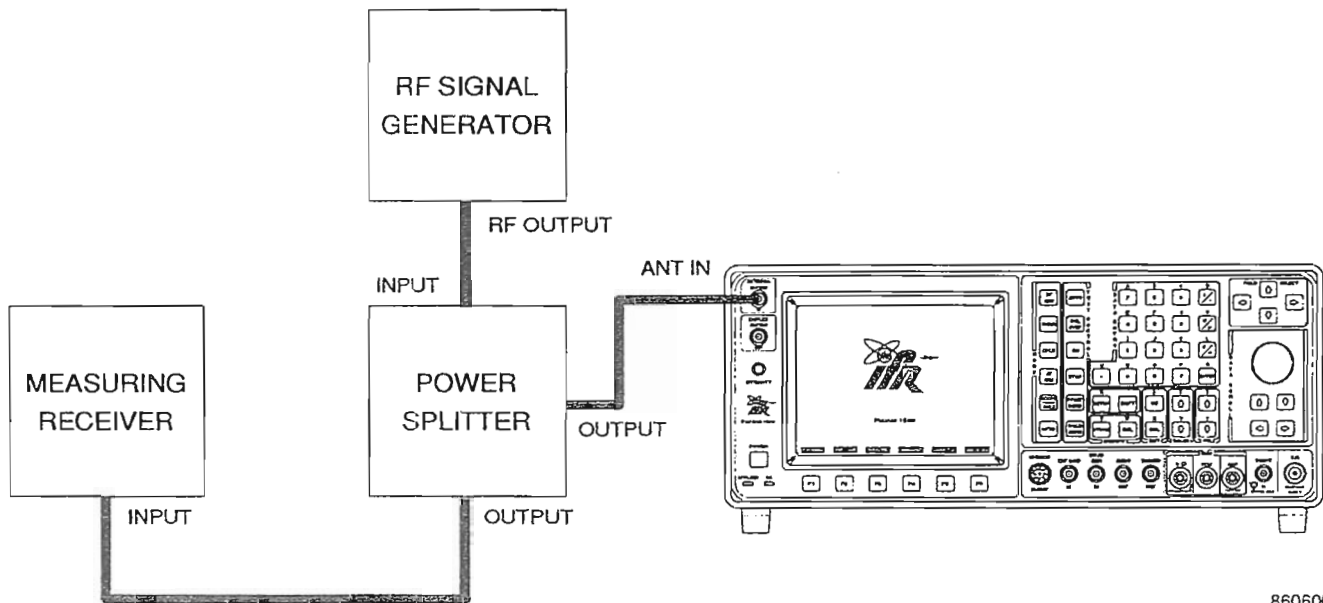

Figure 3-15 Modulation Meter Calibration Test Setup
FIGURE REFERENCES: Figure 3-15
| 2.   | Connect Power Splitter to Signal Generator RF Output (Figure 3-15).  |
4. Connect Measuring Receiver input to one output on Power Splitter and ANTENNA IN Connector (25) to other output on Power Splitter (Figure 3-15).